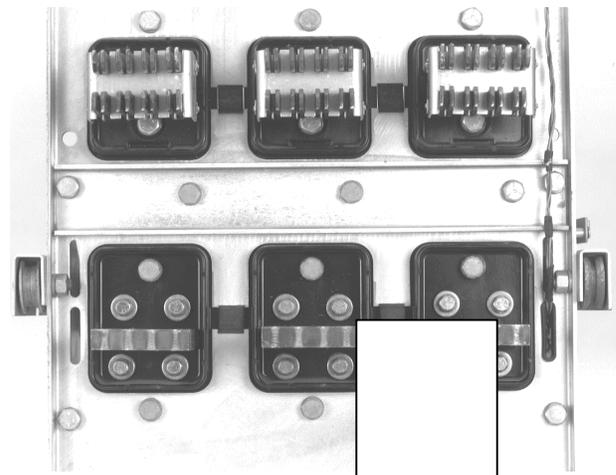

Figure 12. CT bolts inserted into a DB-50 breaker back frame.
5. On a DB-50 breaker, insert the four $\frac{3}{8}$ -16 x $2\frac{1}{2}$ " bolts, with lock washers and flat washers, through the back of the breaker into the tapped holes in the CT assemblies, as shown in Figure 12. Leave the bolts finger tight for now.